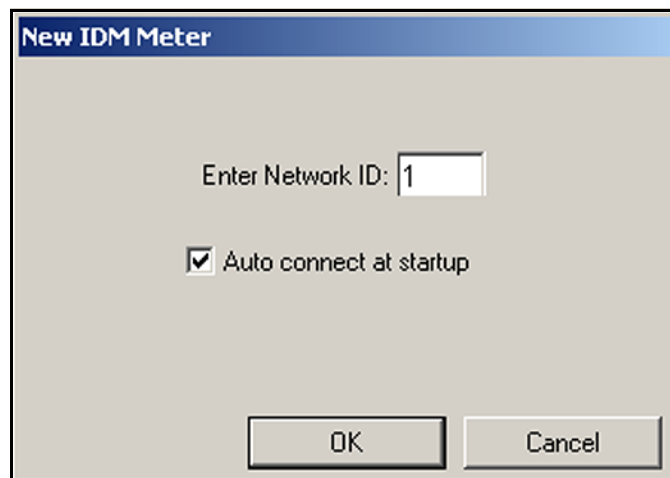

Figure 21: New IDM Meter Screen
4. The “*New IDM Meter*” screen (shown in *Figure 21* below) opens. Enter the *Network ID* number for the meter, and click [OK].